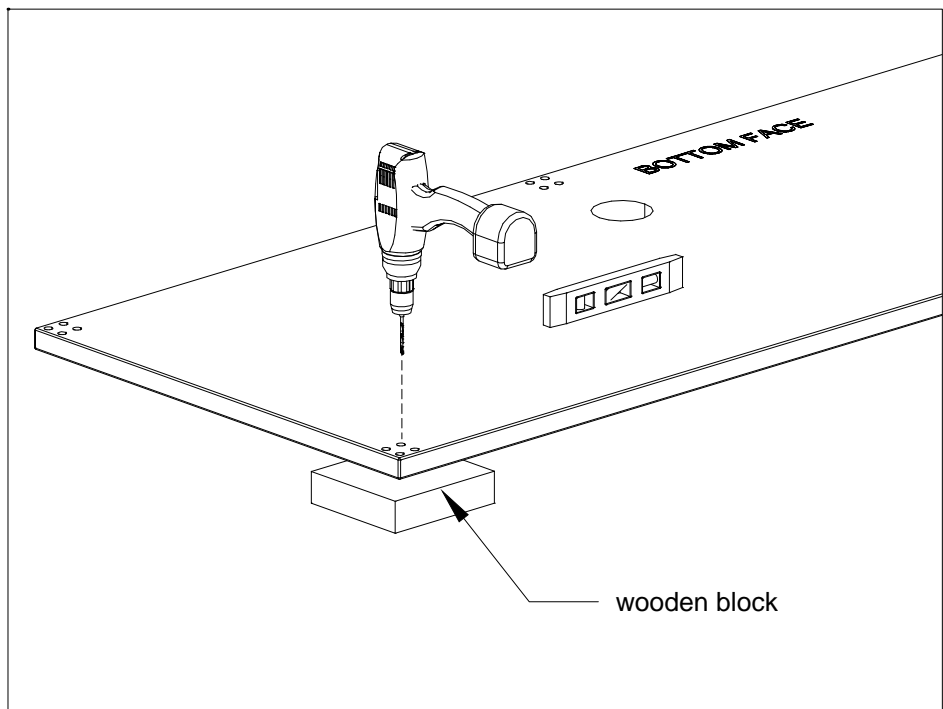

FIGURE 1
1. To install the screen post, place worksurface face down on a solid surface or floor. Place a wooden block underneath the pre-drilled holes and level the worksurface. Drill through the pre-drilled holes with a 5 mm V-point drill bit, (Figure 1).